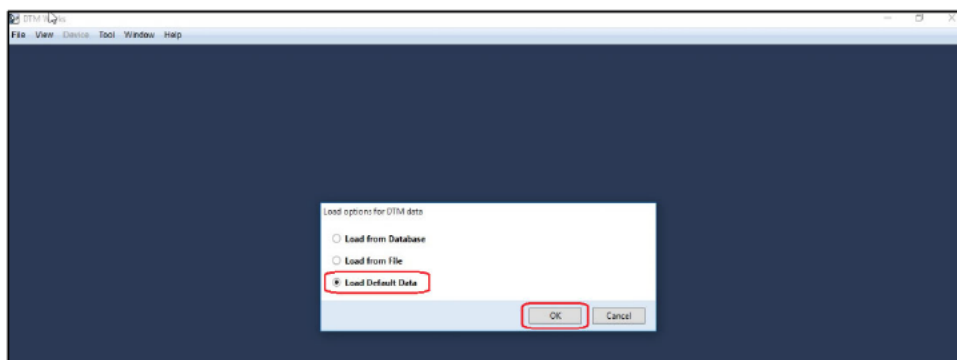
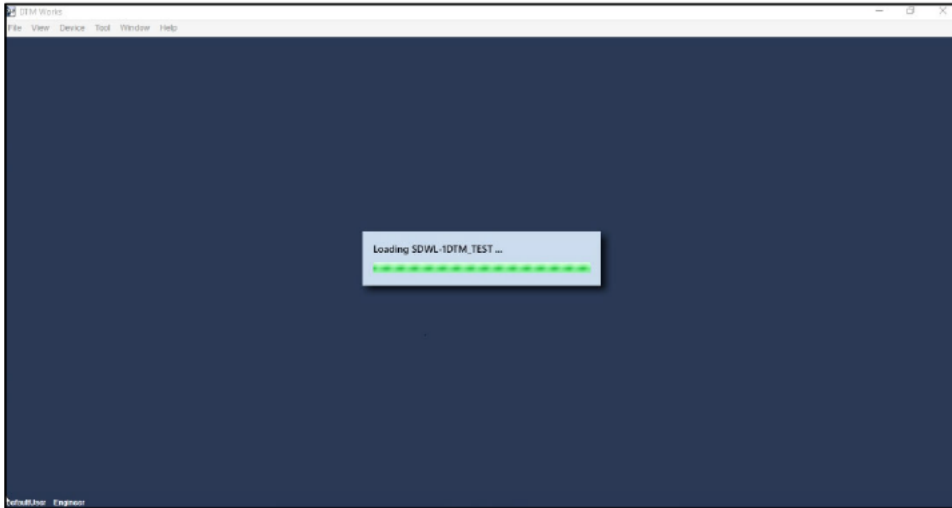

Figure 5-12 DTM Works (Load options for DTM data)
Figure 5-13 DTM Works (loading)
- ⑩ Select "Load Default Data" in the "Load options for DTM data" dialog. (Figure 5-12 and Figure 5-13)